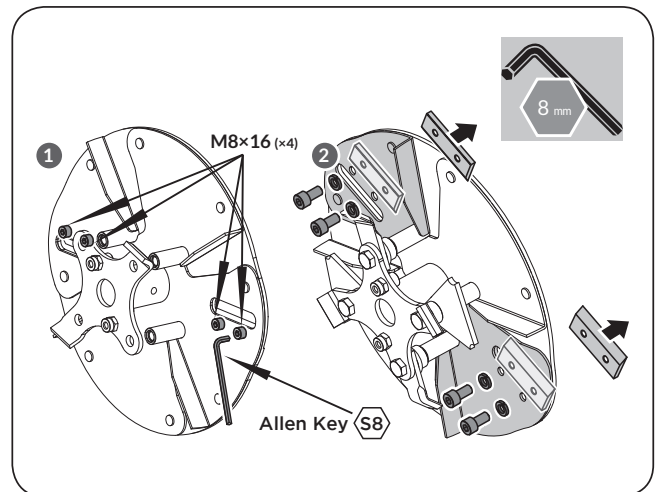

Figure 15
8. If knife show signs of wear, replace it. Using the 8mm hex wrench, reach into the main housing and remove the two socket head cap screws and the chipper knife. (See **Figure 15**)